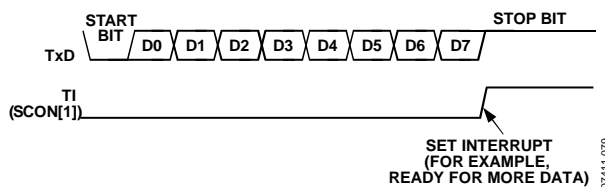

Figure 106. 8-Bit Variable Baud Rate
Transmission is initiated by a write to the serial port buffer SFR (SBUF, Address 0x99). Next, a stop bit (1) is loaded into the ninth bit position of the internal serial port shift register. The data is output bit by bit until the stop bit appears on the TxD pin and the transmit interrupt flag, TI (Address 0x98[1]), is automatically set, as shown in Figure 106.